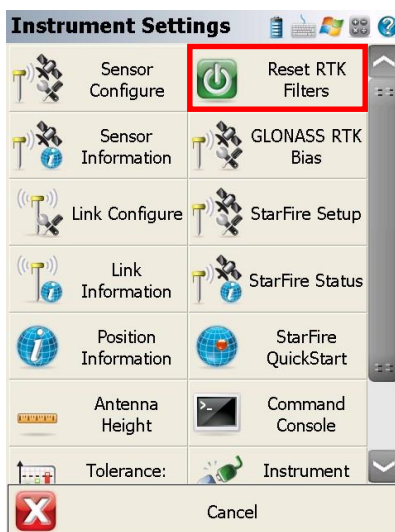

Figure 52: Instrument Settings/Reset RTK Filters
7. On the **Instrument Settings** dialog (refer to Figure 52), click **StarFire Setup**.
7. On the **Instrument Settings** dialog (refer to Figure 52), click **Reset RTK Filters**.